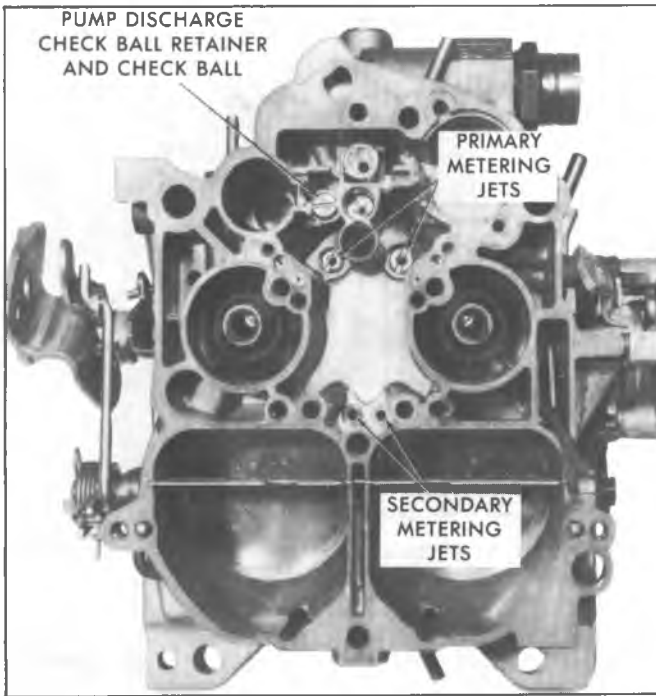

Fig. 13MQ-Float Bowl Jets
9. Remove primary main metering jets (Fig. 13MQ).
6. Install primary main metering jets (Fig. 13MQ).